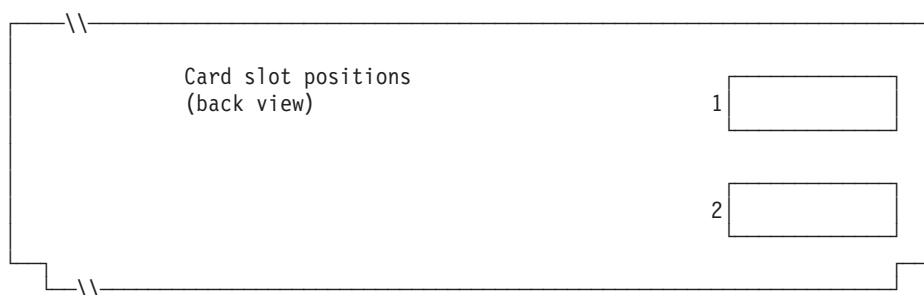

Figure 106. Rear of 4694-2x4 or 4694-245 Controller/Terminal
4. Mark an X on Figure 106 in each card slot that has a Dual Asynchronous Adapter card installed **for use by terminal applications**. Do not mark an X if the card is to be used by applications other than terminal applications use .